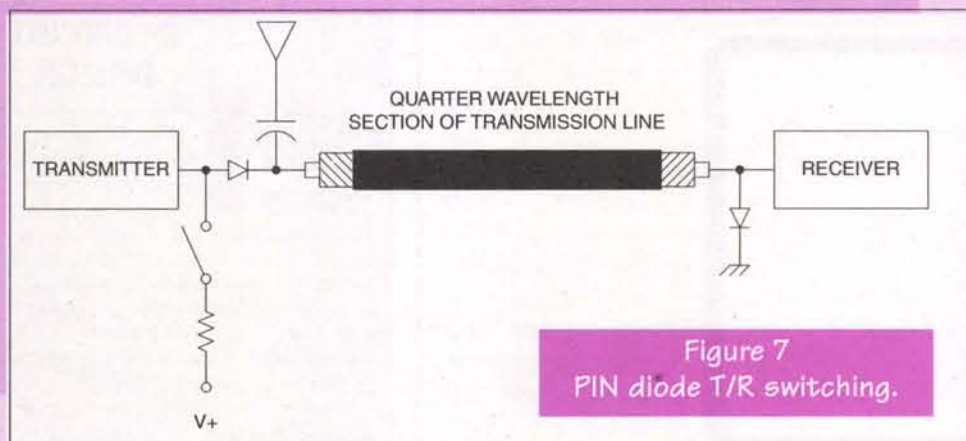

Figure 7
Another application is shown in Figure 7. Here we have a pair of PIN diodes used as a transmit-receive (TR) switch in a radio transmitter; models from low-HF to microwave use this technique. Where you see a so-called "relayless TR switch," it
network such as Figure 7 is in use. When switch S1 is open, diodes D1 and D2 are unbiased, so present a high impedance to the signal. Diode D1 is in series with the transmitter signal, so blocks it from reaching the antenna; diode D2, on the other hand, is across the receiver input so does not attenuate the receiver input signal at all. But when switch S1 is closed, the opposite situation occurs: both D1 and D2 are now forward biased. Diode D1 is now a low resistance in series with the transmitter output signal, so the transmitter is effectively connected to the antenna. Diode D2 is also a low resistance, and is across the receiver input so causes it to short out. The isolation network can be either a quarter wavelength transmission line, microstrip line designed into the printed circuit board, or an LC pi-section filter.